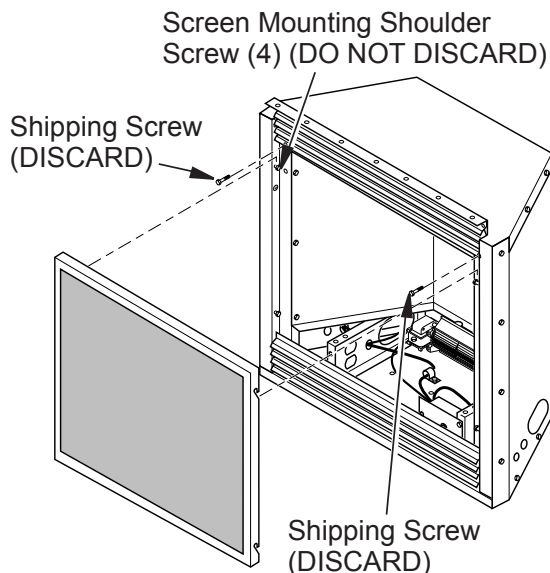

Figure 5 - Removing Screws and Screen
1. Using a 5/16" nut driver, remove two shipping screws and screen (see Figure 5, page 9). Discard these screws. Remove 5/16" screen mounting shoulder screws (do not discard).